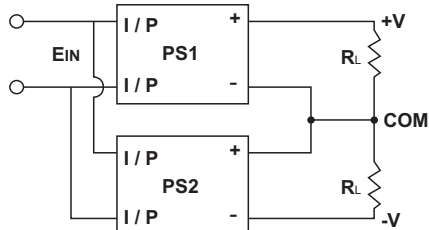

Figure 10: Positive and negative terminals connect in series
- Positive and negative terminals are connected as figure 10: